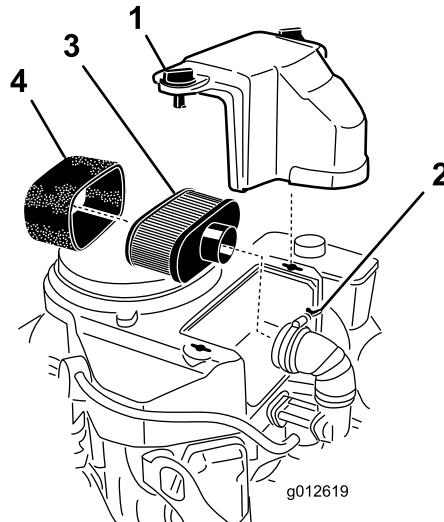

Figure 41
3. Clean around the air cleaner to prevent dirt from getting into the engine and causing damage (Figure 41).
4. Unscrew the cover knobs and remove the air cleaner cover (Figure 41).
5. Unscrew the hose clamp and remove the air cleaner assembly (Figure 41).
6. Carefully pull the foam element off the paper element (Figure 41).
1. Clean the paper element by tapping gently to remove dust. If it is very dirty, replace the paper element with a new one (Figure 41).
1. Carefully slide the foam element onto the paper air cleaner element (Figure 41).
2. Place the air cleaner assembly onto the air cleaner base or hose and secure it (Figure 41).
3. Place the air cleaner cover into position and tighten the cover knob (Figure 41).